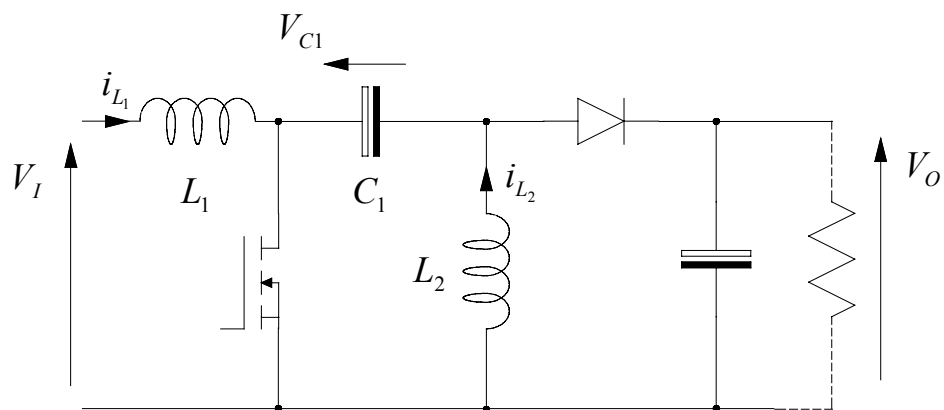

Figure 3 A SEPIC switch-mode power supply
2. (a) Figure 3 shows a variation on the Ćuk switch-mode power supply known as a SEPIC circuit.
- 2) (a) Figure 3 shows a variation on the Ćuk switch-mode power supply known as a SEPIC circuit.